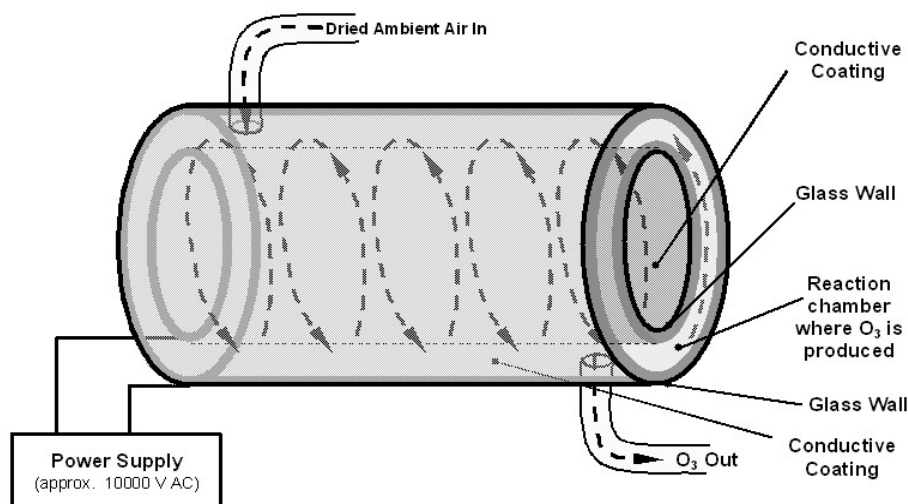

Figure 13-10: Ozone Generator Principle
The 9110T uses a dual-dielectric, Corona Discharge (CD) tube for creating its O3, which is capable of producing high concentrations of ozone efficiently and with low excess heat (see Figure 13-10). The primary component of the generator is a glass tube with hollow walls of which the outermost and innermost surfaces are coated with electrically conductive material.